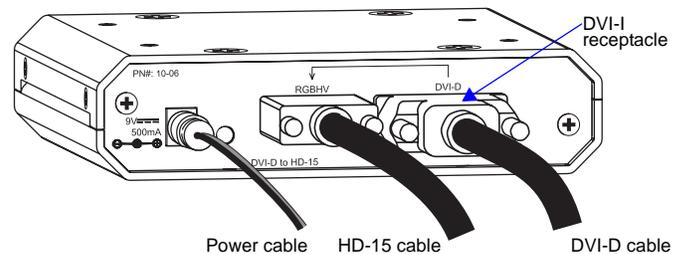

FIG. 4 Attach DVI-D, HD-15, & power cable connectors
1. Insert the DVI-D and HD-15 cable connector plugs into the receptacles on the module (FIG. 4).